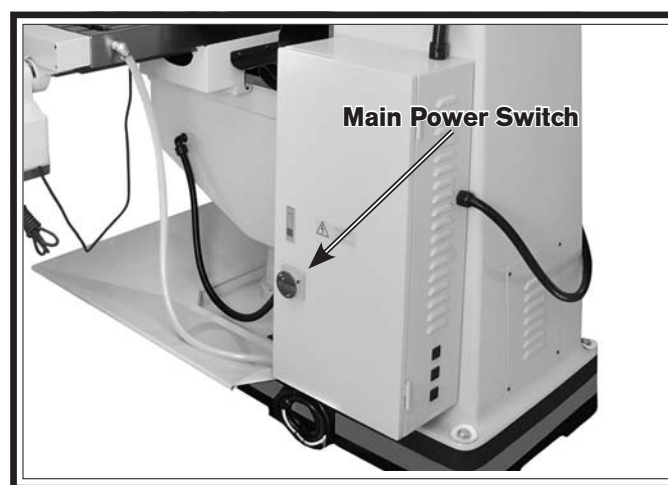

Figure 18. Location of main power switch on the electrical box door.
7. Make sure the electrical cabinet door is latched shut, then rotate the main power switch to the **ON** position so that power flows to the control panel (see **Figure 18**).